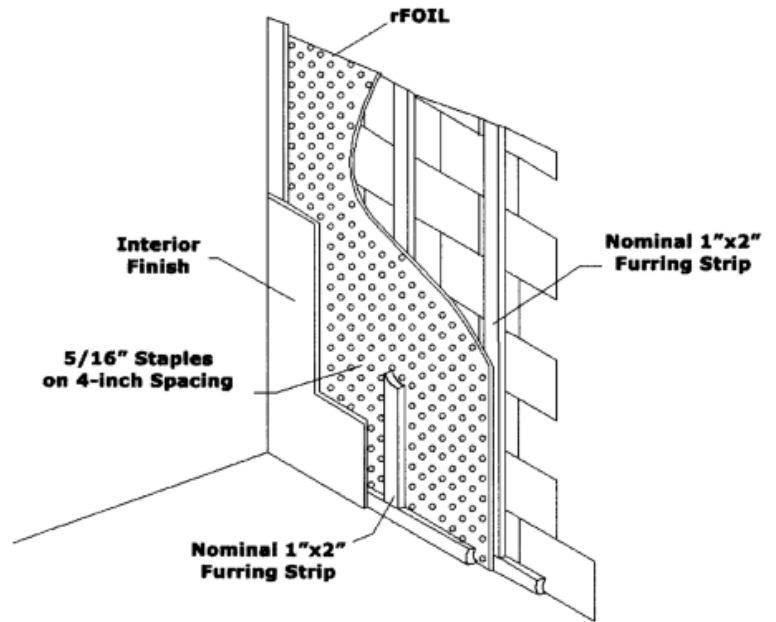

FIGURE 3—DOUBLE FURRED BLOCK WALL APPLICATION
4.1.2.3 Furring Strip Block Wall Application: The block wall assembly consists of nominal 1-by-2 furring strips attached vertically at a maximum of 16 inches (406 mm) on center to minimum 8-inch-thick (203 mm) block wall. The insulation is installed parallel to the furring strips using fasteners noted in Section 4.1 of this report. A second layer of 1-by-2 furring strips is placed over the insulation and directly over the existing furring strips using 1 1/4-inch-long (38 mm) nails. Minimum 1/2-inch-thick (12.7 mm) gypsum wallboard complying with ASTM C1396 is attached over the furring strips in accordance with the applicable code to create two 3/4-inch (19 mm) air spaces. Inside surface-to-surface thermal resistance of the assembly is noted in Table 1 of this report. See Figure 3 of this report for an illustration of the assembly.